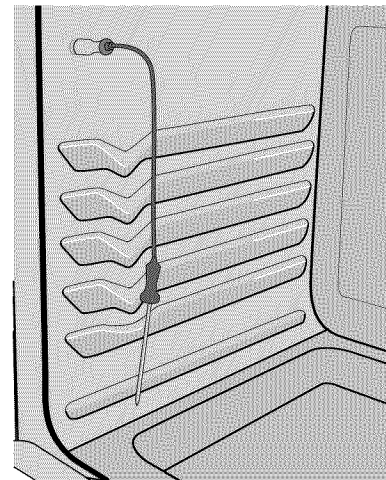

Fig. 2
2. Plug the probe COMPLETELY into the probe receptacle inside the oven and close the door. -p. 28, Fig. 2-